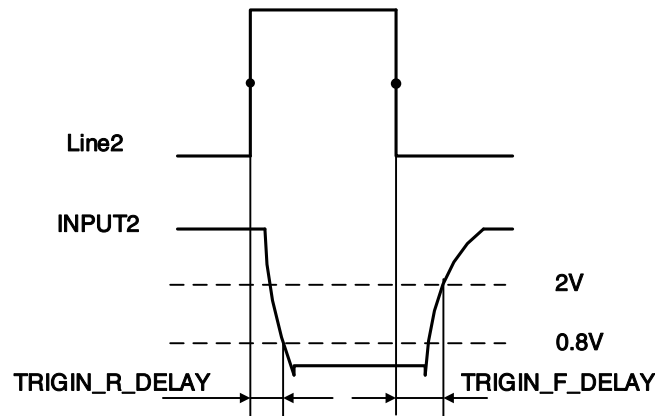

Figure 7-15 Parameter of Line2 input circuit
- Input rising time delay: <math><2\mu\text{s}</math> (0°C~45°C), parameter description as shown in Figure 7-15
- Input falling time delay: <math><2\mu\text{s}</math> (0°C~45°C), parameter description as shown in Figure 7-15